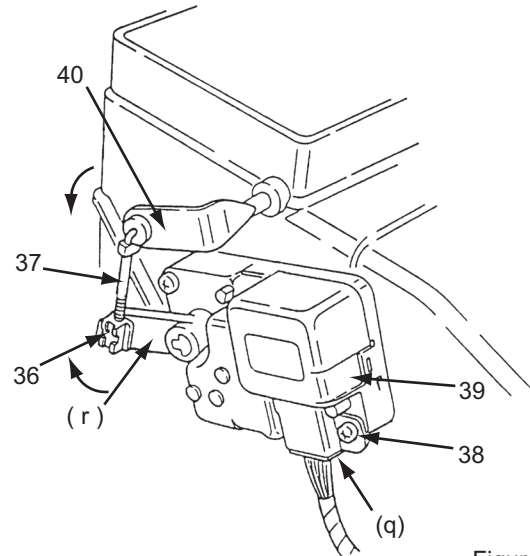

Figure-14
Do not release the rod clamp (36) and remove the rod (37) other than when replacing the actuator. If it has been removed, check to see the lever (r) is at the location indicated in Figure-14.
- Turn the power ON and set to the *** mode, (beware that the lever (r) rotates). Wait for 10 seconds, and then check to see if the lever (r) is at the location shown in Figure-14.
- Turn OFF the power and fix the rod (36) as explained in w of the previous section.